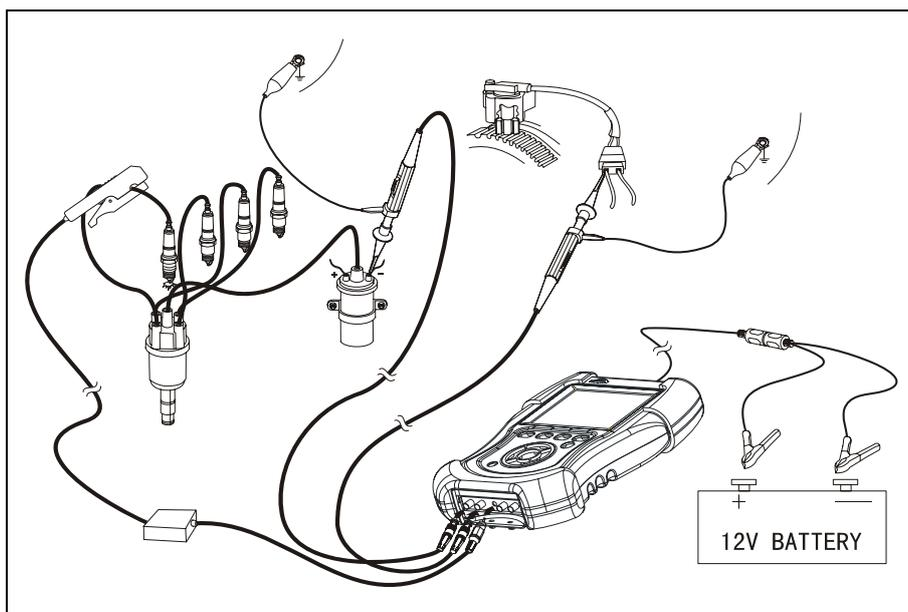

Fig. 5-13
When connecting KT600 to extension line for power supply, choose battery or cigar igniter as power supply according to the battery position of vehicle mode tested. All connecting diagrams in this users manual take power supply by battery as example. If choosing cigar igniter connector, confirm that cigar igniter has 12V battery voltage first. Connect two test probes to CH1 and CH2 (CH1 and CH2 port) of KT600 respectively. Connect inductive pickup to Channel CH5/(CH3), and then connect the small alligator clip connected to test probe CH1 to the negative of battery or grounding, pierce test probe into the “-“ connector of ignition coil and signal line of crankshaft position sensor. Refer to Fig.5-13 for connection method.
1. Connect equipment according to Fig.5-13, switch on power supply switch of KT600;